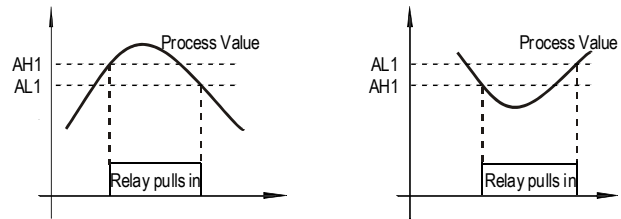

Figure 5. Reply (J1) action when the alarm is set as high alarm (left) and low alarm (right).
- 2) Set AH1 > AL1, relay is for high limit alarm. See Figure 5 (left).
- 3) Set AH1 < AL1, relay is for low limit alarm. See Figure. 5 (right).